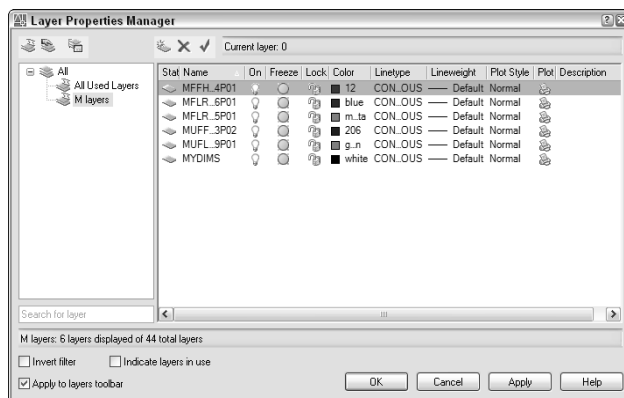

Figure 11-16: The Layer Properties Manager now shows only layers starting with the letter *M*.
4.  Click the New Property Filter button. In the Filter Name text box, type **M layers**. In the Name column, type **m*** (the asterisk is already there, so just type **m** before the asterisk) to list all layers starting with the letter *M*. Click OK. The layer list now looks like Figure 11-16.